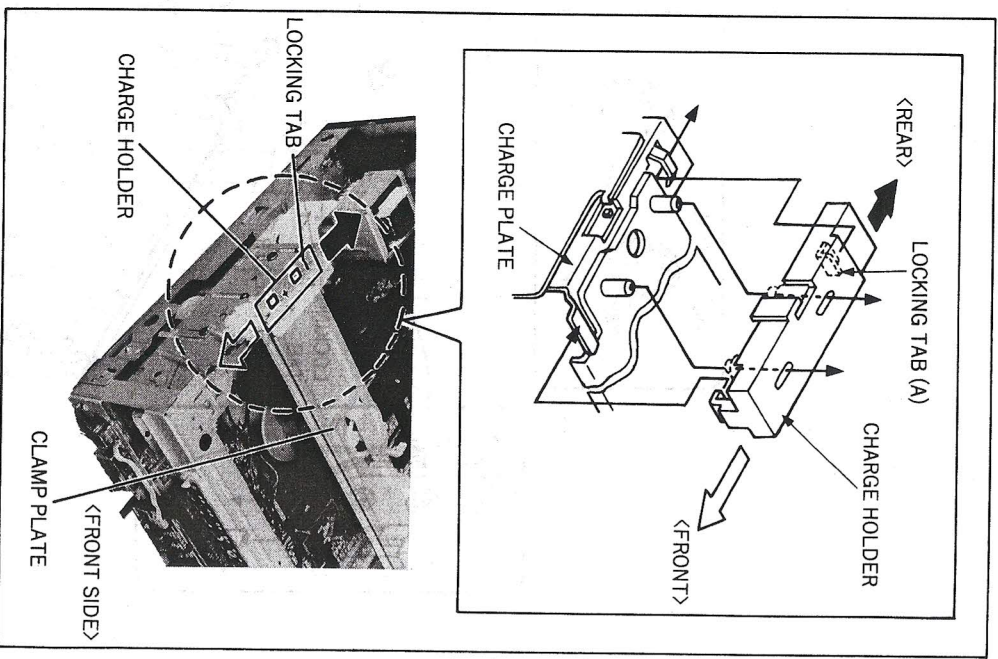

Fig. 6-3
3. Remove Right Bracket unit, Drive Gear, Syncro. Gear, Clamp Plate and Shaft Holder as shown in Fig. 6-3 and 4.
9. Install the Clamper. Then set the Charge Holder to mount the Clamper as shown in Fig. 6-3.
1. Remove the Charge Holder and Clamp Plate (Refer to Fig. 6-3).